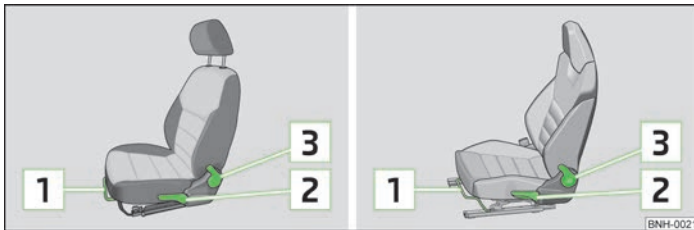

Fig. 32 Control elements for seat adjustment/controls for sports seat adjustment
- Pull the lever (in the middle area) **1** » Fig. 32 up and push the seat into the desired position.
- To lift the seat, pull or pump the lever **2** » Fig. 32 upwards.
- Remove the load on the seat backrest (do not lean on it), pull the lever **3** » Fig. 32 towards the rear and set the desired angle of the seat backrest with the back.